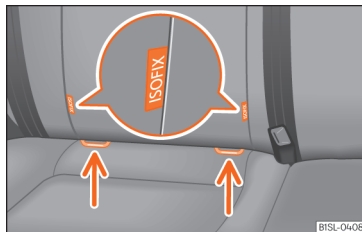

Fig. 27 On the seat of the vehicle: identification variants of the anchor points for the child seats
- Press the child seat onto the retaining rings » **Fig. 27** in the direction of the arrow. The child seat must be safely engaged and click audibly into place.
- Place the child seat on the seat cushion and attach the retaining strap hooks to the retaining rings » **Fig. 27.**